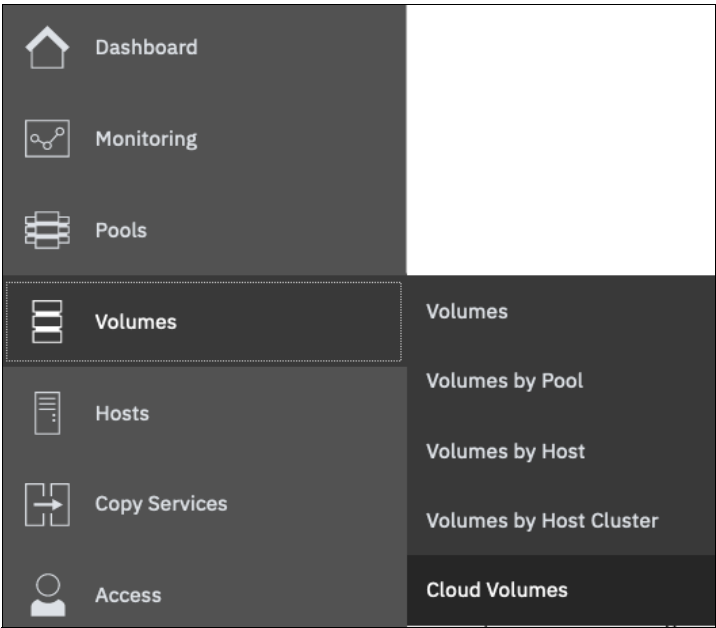

Figure 10-70 Cloud volumes menu
- 1. Click **Volumes** → **Cloud Volumes**, as shown in Figure 10-70.